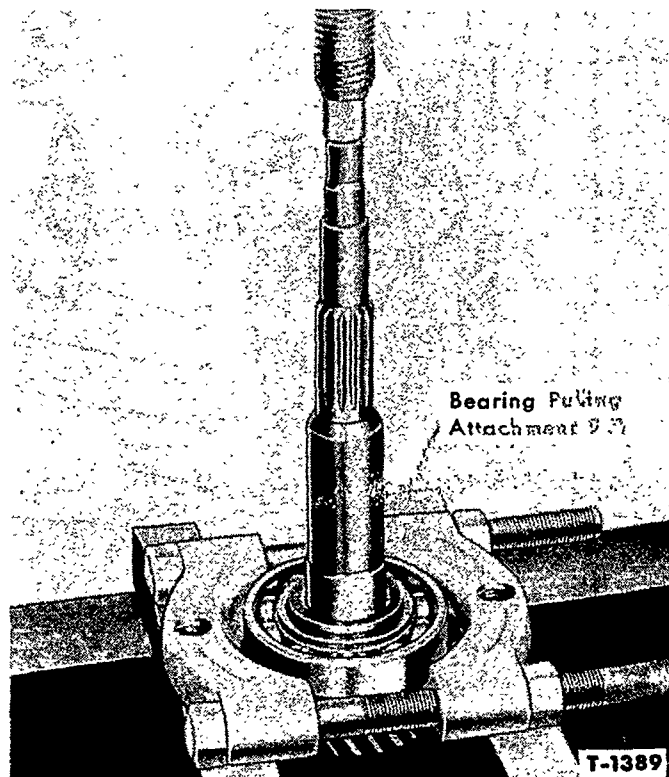

Figure 34—Removing Clutch Shaft Bearing
9. Hold the cluster gear (52) while withdrawing the cluster gear shaft and remove the gear and two thrust washers (50 and 55) from the gear case.
10. Remove the two roller bearings (51 and 54) and bearing spacer (53) located in the bore of the cluster gear.
11. Remove the three socket set screws (28) from the pilot diameter of the front support housing (27) and remove the clutch shaft assembly from the front support.
12. Remove the snap ring (24) that secures the ball bearing (23) to the clutch shaft (22).
13. With Bearing Pulling Attachment 951 and arbor press, remove the ball bearing (23) from the clutch shaft as shown in Figure 34.